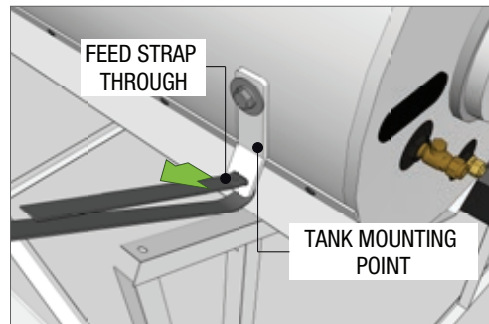

Fig 7
12. Fold the stainless steel straps (supplied) in half and feed them through the eyelets on the steel Tank Fixing Lugs (Fig 7)